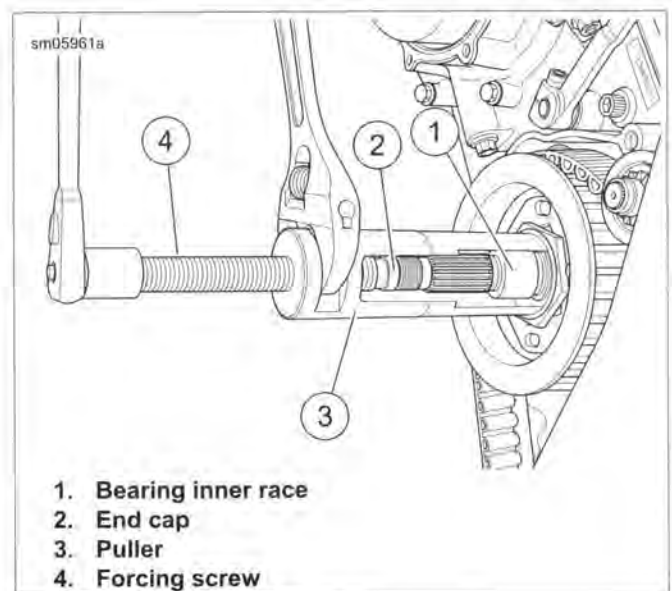

Figure 5-21. Pulling Mainshaft Inner Bearing Race
1. See Figure 5-21. Install end cap (2) into end of mainshaft.
2. Position puller (3) around mainshaft, under bearing inner race.
3. Turn forcing screw (4) clockwise while holding puller to remove bearing.